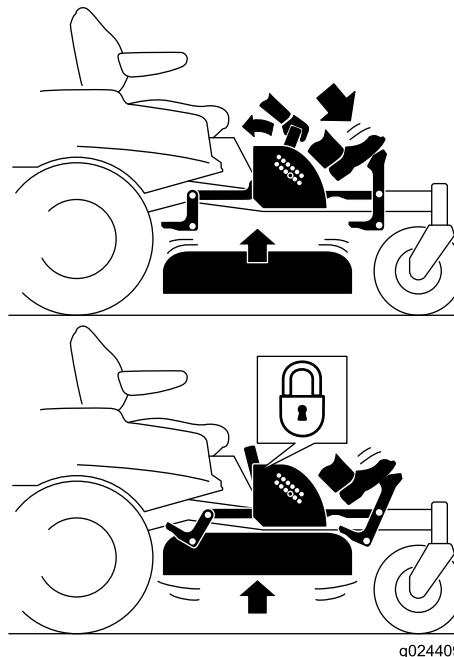

Figure 21
- Press the pedal down to raise the deck; continue to press the pedal until the deck is locked in the transport position (Figure 21).
- Push on the deck lift pedal with your foot and pull the transport lock handle rearward to disengage the transport lock (Figure 21).
- Push on the deck lift pedal with your foot and pull the handle rearward to disengage the transport lock (Figure 21).